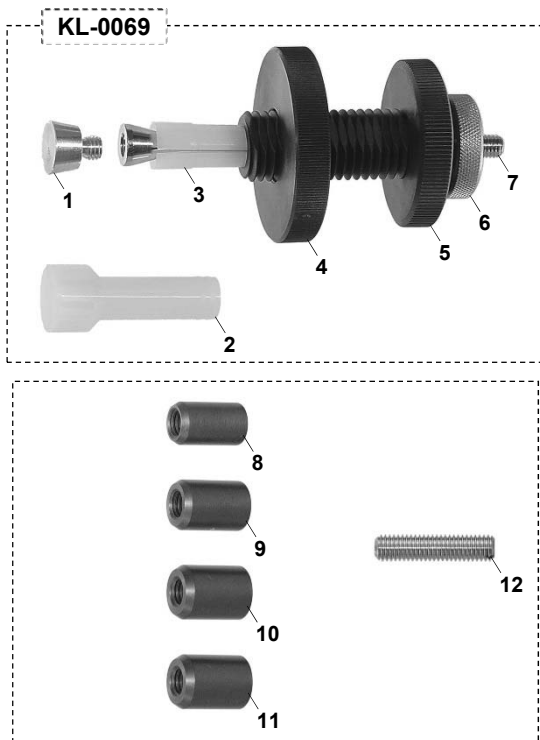

Fig. 1: Preparing the clutch aligner.
1. Identify appropriate clamping cone for clutch disc. (**Fig. 1 A**)
Identify centring sleeve. (**Fig. 1 B**)